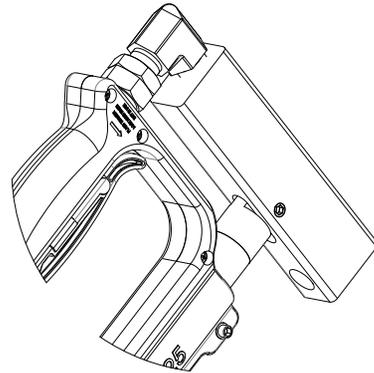

FIGURE 4
8. Slide the gun forward on the handle so the tab on the brace slides into the slot in the manifold. Tighten the gun on the handle and the set screw securing the brace into the slot. See **FIGURE 4**.